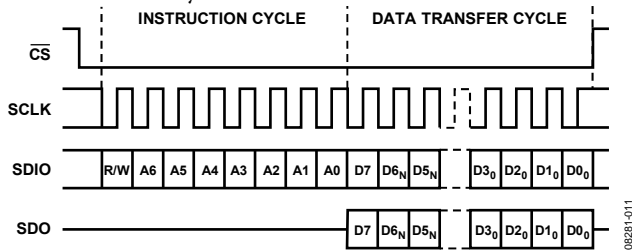
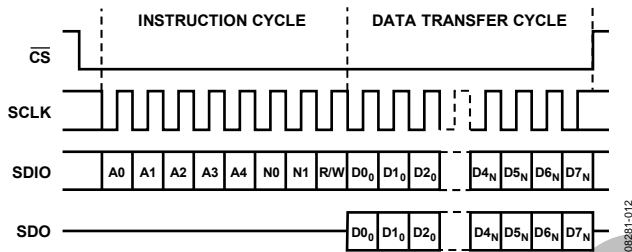

Figure 18. Serial Register Interface Timing MSB-First
Figure 19. Serial Register Interface Timing LSB-First
1. 2x interpolation: Either the first (HB1) or second (HB2) half-band filter can be used for 2x interpolation (Register 0x00F). Figure 18 and Figure 19 show the frequency response when HB1 and HB2 are used respectively. The frequency (x-axis) is normalized to the DAC sample rate. Hence in this case, the bandwidth of HB1 is $0.4 \times F_{dac}$ or $0.8 \times F_{data}$. Similarly, the bandwidth of HB2 is $0.25 \times F_{dac}$ or $0.5 \times F_{data}$